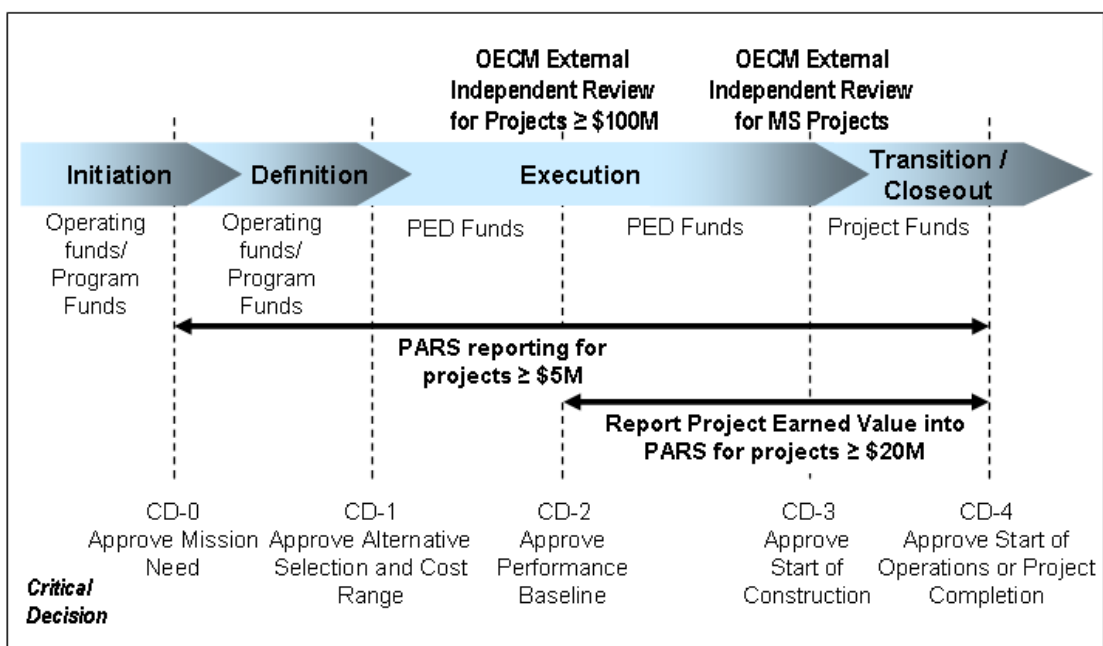
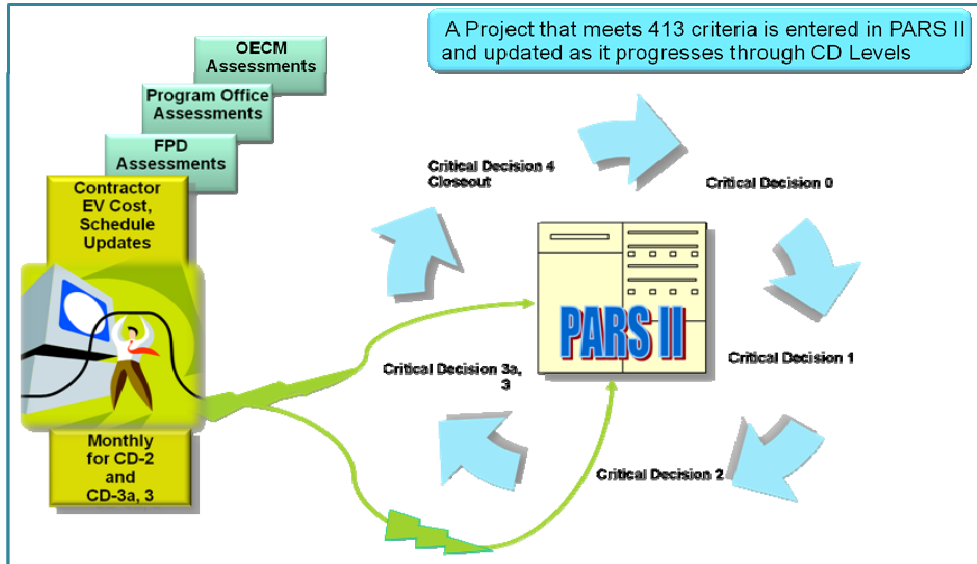

Figure 1 Typical DOE Acquisition Management System for Line-Item Projects
Figure 2 Process Cycle of a Project in PARS II
PARS II is a component of the iManage, enterprise-wide systems initiative, and its design reflects how DOE executes and monitors capital projects. Figure 1 *Typical DOE Acquisition Management System for Line-Item Projects* shows the typical process flow of a capital project through Critical Decision (CD) milestones, and the criteria for projects to be included in PARS II reporting.
Figure 2 "Process Cycle of a Project in PARS II" shows the major functions performed in PARS II. The right-hand side of the diagram represents the life cycle of a project in PARS II with updates occurring as milestones are achieved. The left-hand side of the diagram shows the updates that are performed on a monthly basis. Monthly updates are accepted in PARS II for all projects in the database and at any CD level. As indicated in Figure 1, these monthly updates are required for projects of twenty million dollars or more from CD-2 through CD-4.